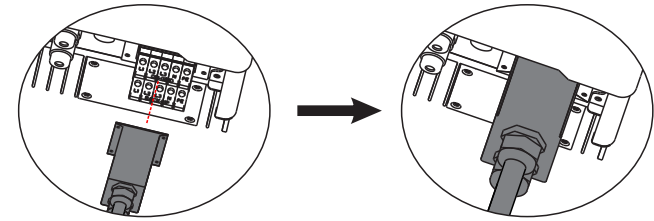

**Figure 4.3-5 Install ac connection terminals**
**Step 3.** Install the AC connection terminal on the cable. See Figure 4.3-5.